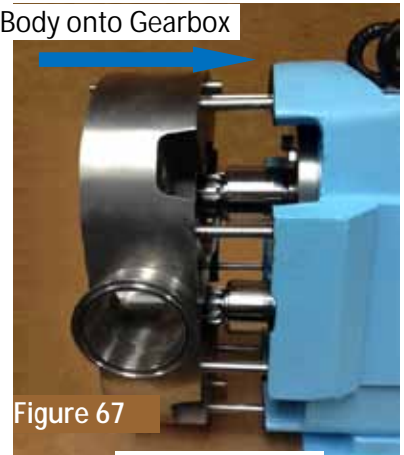

Figure 67
1. Slide the body over the shafts and studs, taking care that the seal components are not knocked out of place or dislocated from drive/anti-rotation pins. Press the body firmly against gearbox, engaging the dowels, Figure 67.